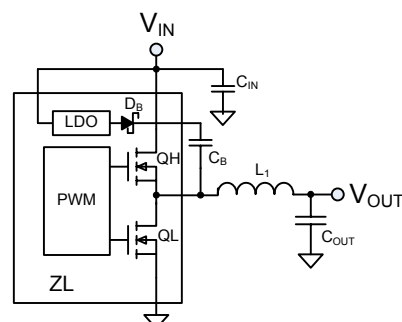

Figure 9. Synchronous Buck Converter
Figure 9 illustrates the basic synchronous buck converter topology showing the primary power train components. This converter is also called a step-down converter, as the output voltage must always be lower than the input voltage.
The gate drive voltage for the high-side MOSFET driver is generated by a floating bootstrap capacitor, C_B (see Figure 9). When the lower MOSFET (QL) is turned on, the SW node is pulled to ground and the capacitor is charged from the internal VR bias regulator through diode D_B . When QL turns off and the upper MOSFET (QH) turns on, the SW node is pulled up to VDDP and the voltage on the bootstrap capacitor is boosted approximately 6.5 V above VDDP to provide the necessary voltage to power the high-side driver. An internal Schottky diode is used with C_B to help maximize the high-side drive supply voltage.